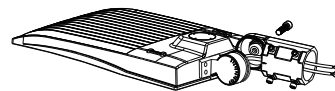

Figure 1
- Step 1: Remove the mounting screws on the fixture and run the wires through the mounting. (Figure 1)